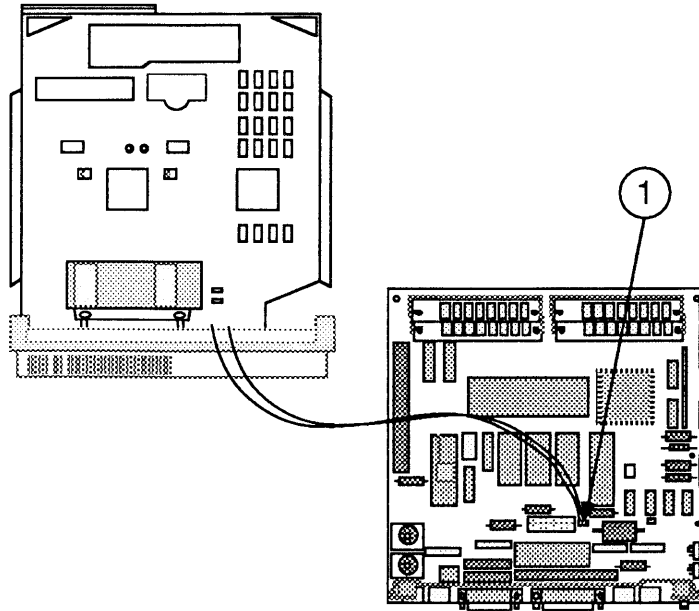

FIGURE 16
9. With the main logic board held upright beside the computer, disconnect the speaker cable (Figure 16, #1). Place the board on the grounded workbench pad.